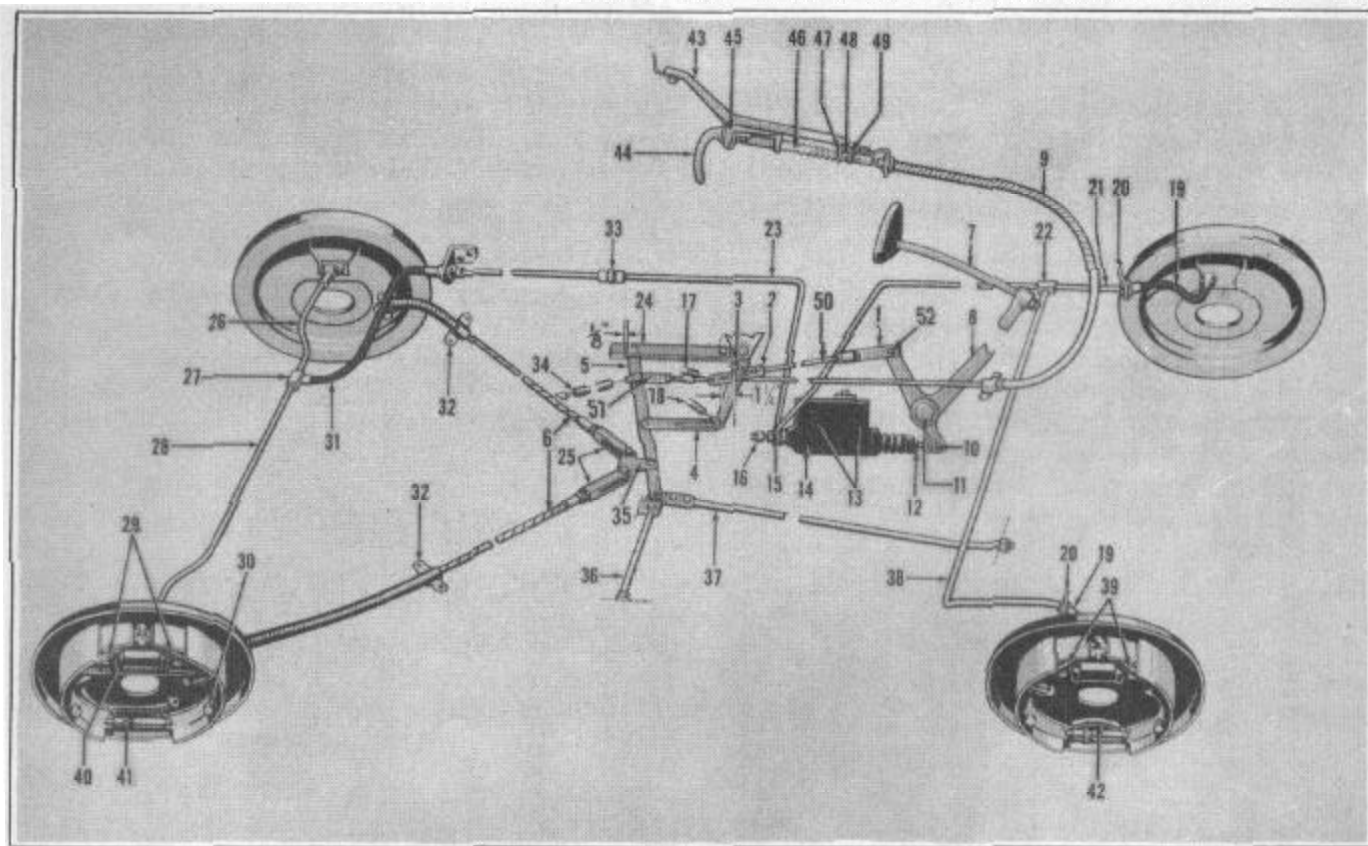

FIGURE 1
Effective November 14, 1948, production began using as an option for light scale only, a Spring Perch rear spring Part No. 302440 on model 491 Broughams and all Coupes. This spring has rubber inserts at the ends of the long leaves as illustrated in Figure 1. Following.
The brake pedal lever (8) Figure 1 should have between 1/4" to 3/8" free play; this free play is the movement of the pedal lever (8) before the master cylinder push rod touches the master cylinder piston.